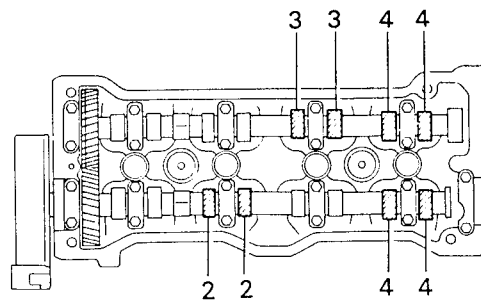

Fig. 2
- Measure only the valves indicated as shown in Fig. 2 below.